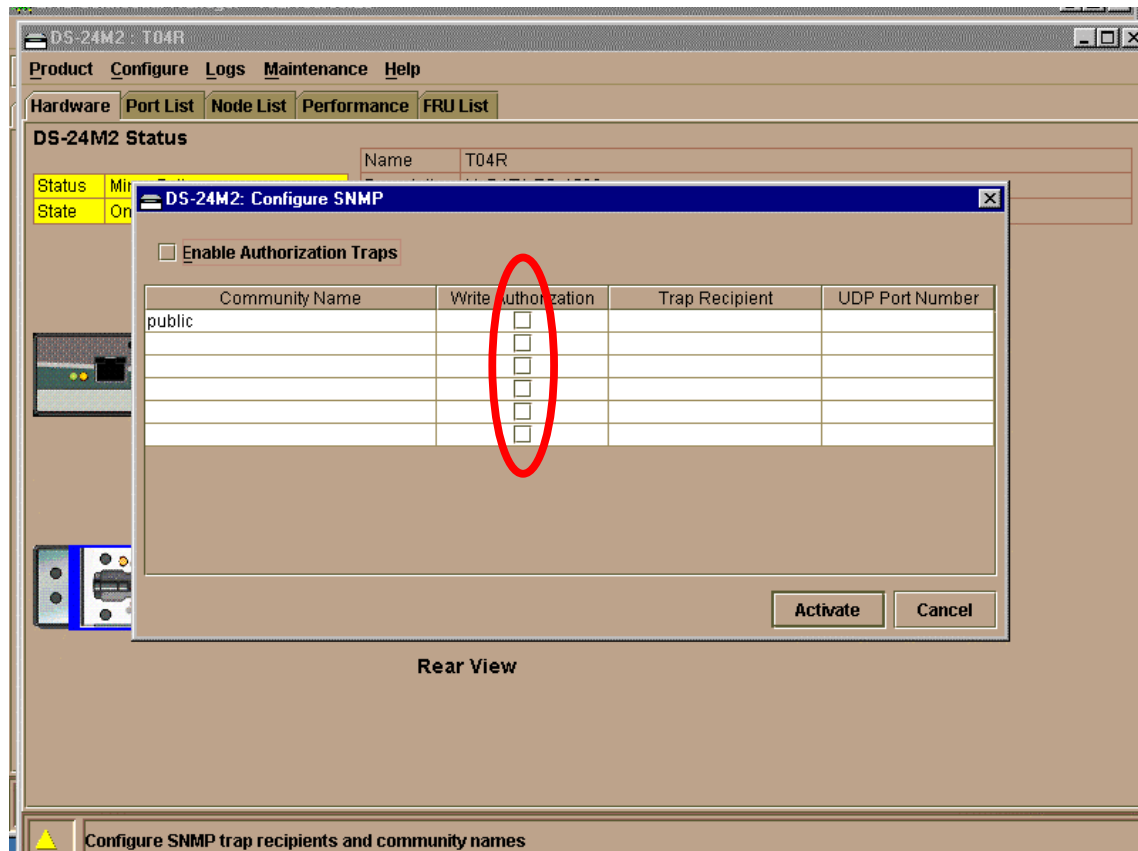

Figure 5 SNMP Agent configuration for the McData switch
- From the product view within Connectrix manager, ensure that the SNMP agent on the switch does not permit writes. Please refer to figure 5. The SNMP agent is required to be configured with a read only “public” community string for use by the Connectrix Manager.